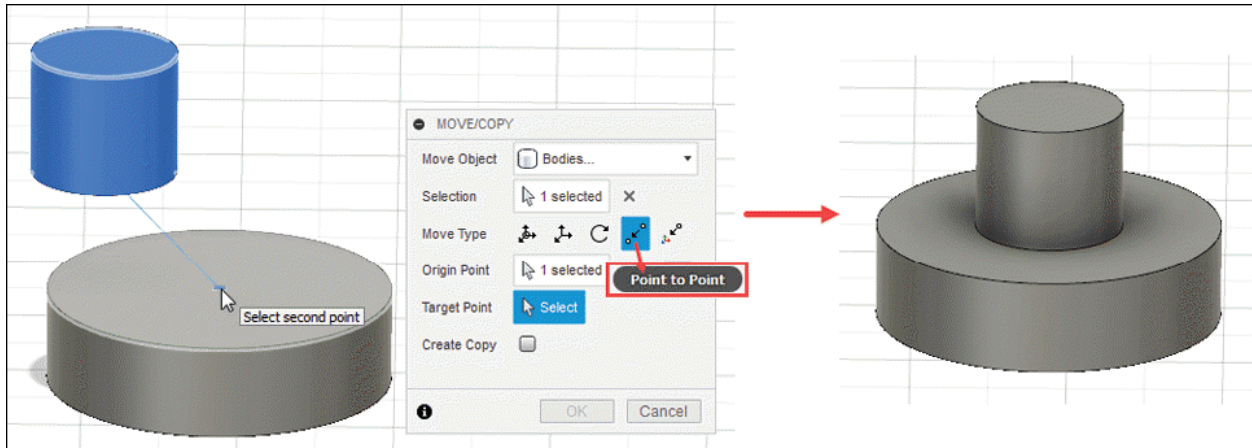

Figure-56. Point to Point tool in Move Type section
- If the preview is as required then click on **OK** button from **MOVE/COPY** dialog box to complete the process; refer to Figure-56.